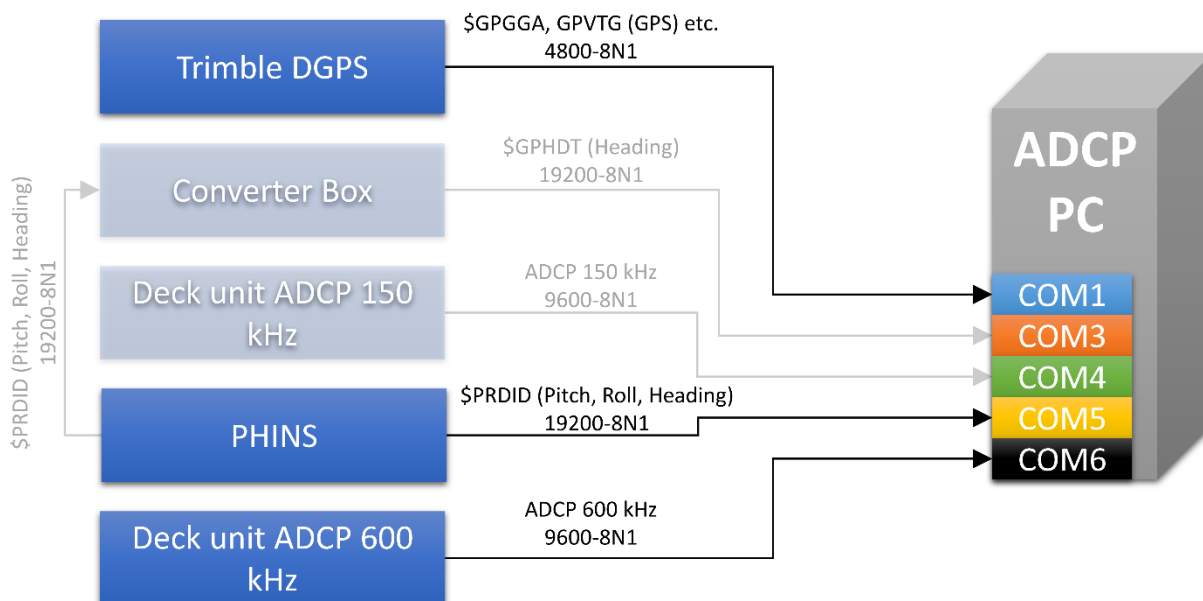
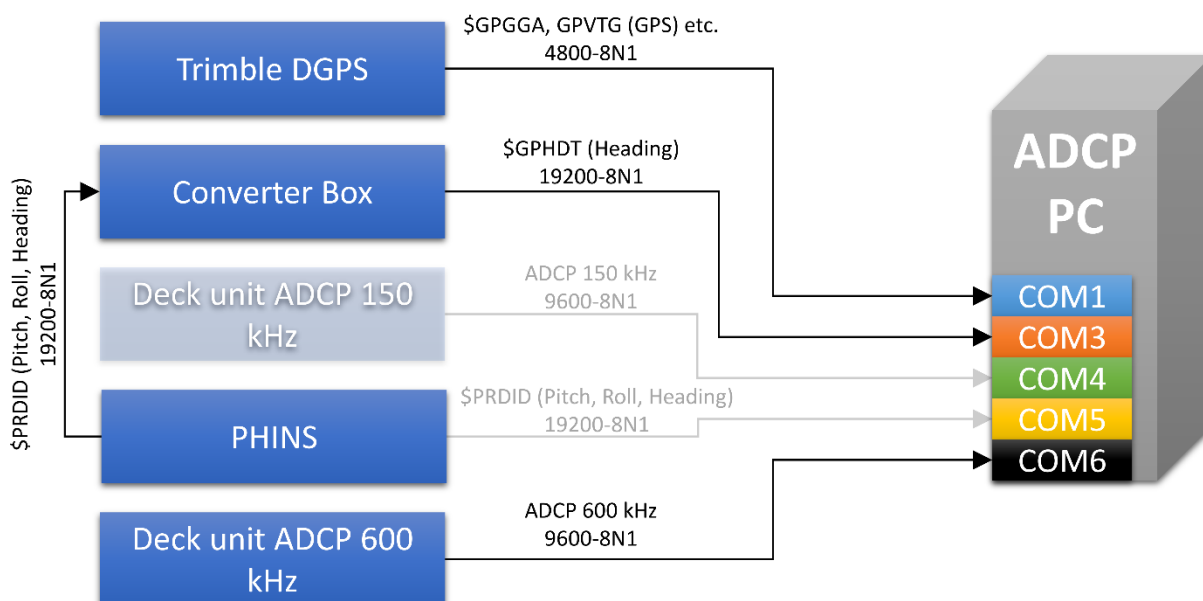
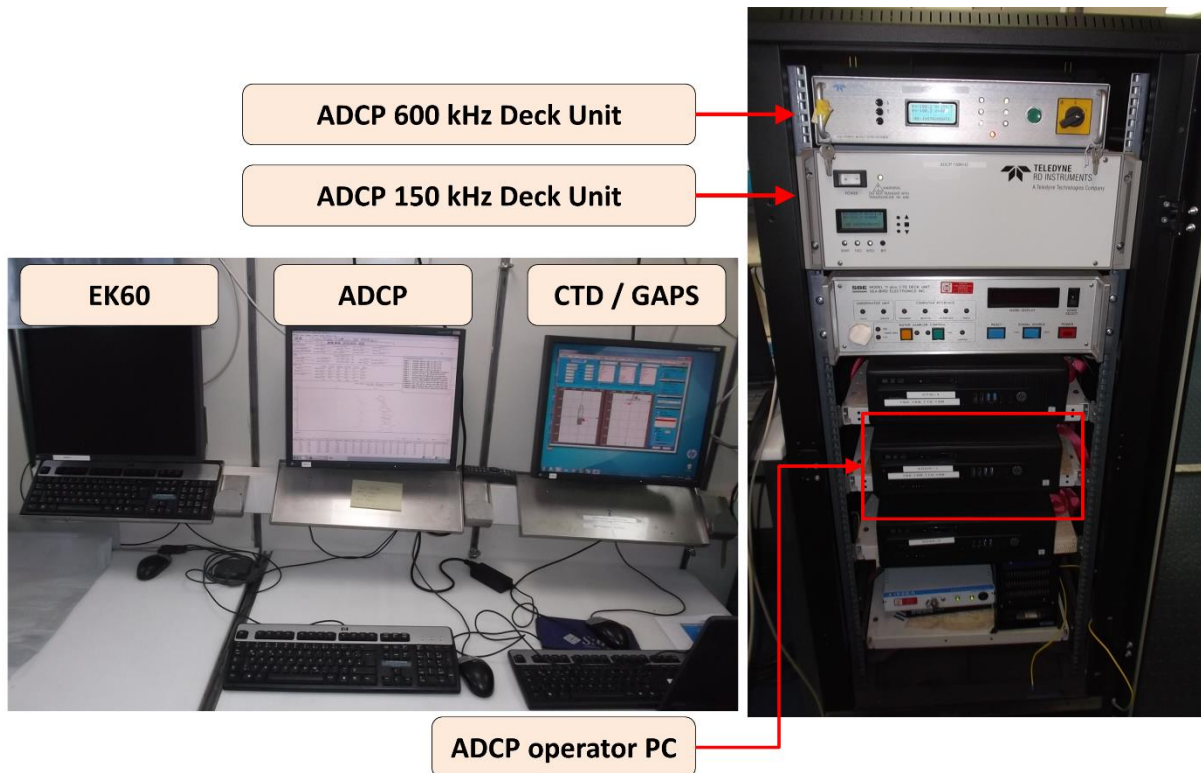

Figure 1: Wiring diagram for using the ADCP with VmDas
Figure 2: Wiring diagram for using the ADCP with WinRiver II
Figure 3: Photo showing the system in the lab
Figure 1 and Figure 2 show active connections for using different software (VmDas or WinRiver II) with the Teledyne RDI Workhorse Mariner 600 kHz. Figure 3 shows the installation in the laboratory.
1. Power up the ADCP operator PC (Figure 3, right)
2. Power up the deck unit in the server rack (Figure 3, right)